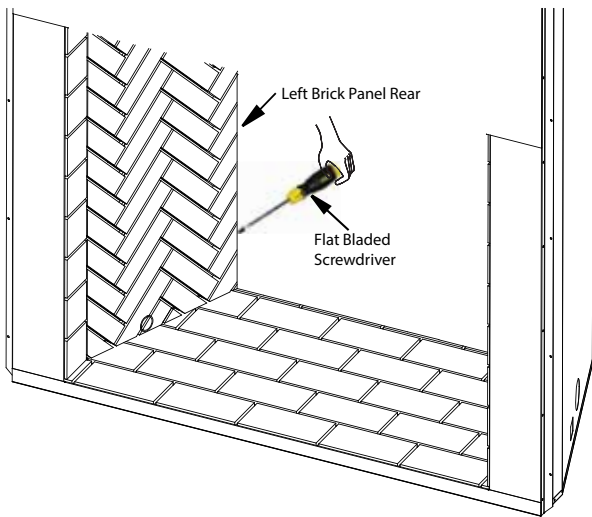

**Figure 1 - Installing Hearth Brick Panel**
1. Install hearth brick panel. Using at least two people, hold hearth brick panel by its side edges. Place the back edge of hearth brick panel into the firebox first and carefully lower the front edge of panel. Make sure hearth brick panel is centered in the firebox and flush with the front of the fireplace. Be careful not to pinch your fingers between the hearth brick panel and firebox (*Figure 1*).